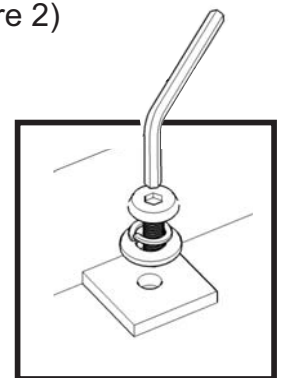

Figure 2
Attach Shelves (D) to unit with Flat Washers, Spring Washers and Head Cap Bolts. (See Figure 2)